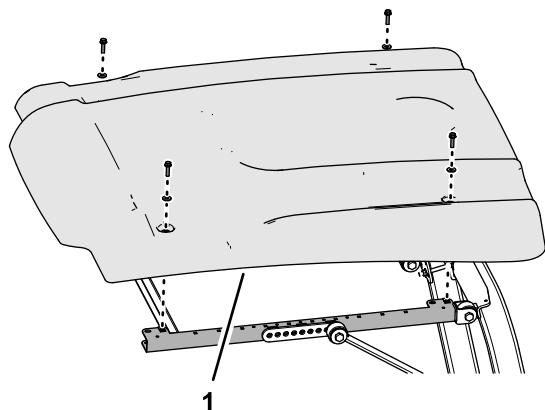
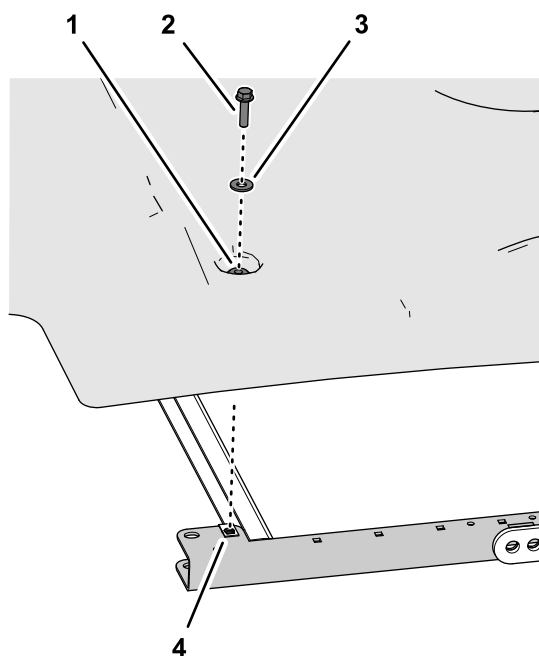

Figure 1
Figure 2
1. Remove the 4 flange-head bolts (5/16 x 1-1/4 inches) and 4 washers (5/16 inch) that secure the sunshade to the side-frame channels (Figure 1 and Figure 2).
2. Remove the sunshade from the machine (Figure 1).
2. Assemble the sunshade to the frame channels (Figure 2) with the 4 flange-head bolts (5/16 x 1-1/4 inches) and 4 washers (5/16 inch) that you removed earlier.